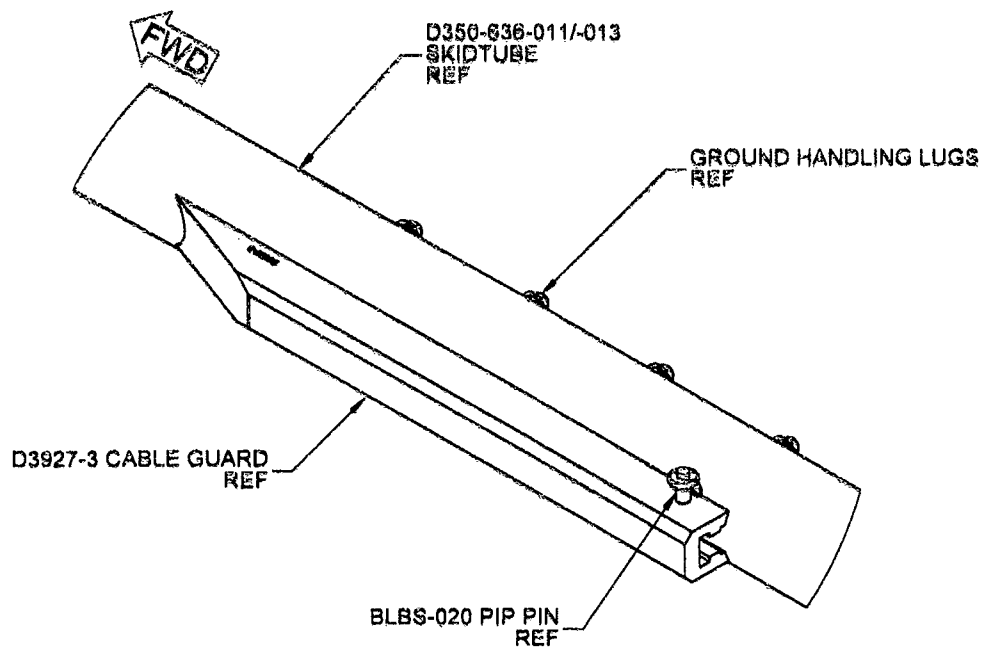

FIGURE 3: D350-636-107B AFT CABLE GUARD KIT
- 2) Insert the BLBS-020 pin pin into the hole at the aft end of the D3927-3 cable guard to secure it in place. See Figure 3 Sheet 4 for details.